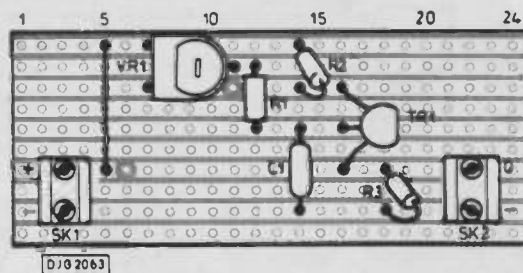

Fig. 30. (right)
**14. UJT audio oscillator (Fig. 30)**